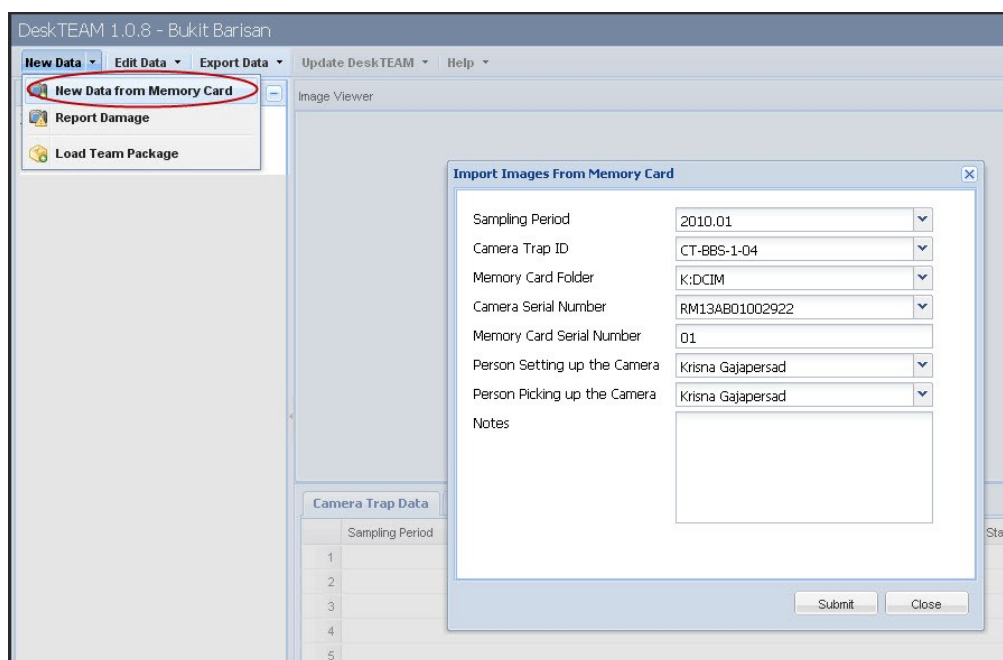

Figure 11. Screenshot depicting how to transfer images from a memory card to DeskTEAM.
8. **Copy files from the memory card to DeskTEAM.** In DeskTEAM, click on the arrow next to New Data on the Menu Bar and select New Data from Memory Card. Choose the drive that corresponds to the memory card and transcribe the required information from the *Camera Trap Setup* and *Pickup* field forms (Appendix A3 and A4). Press Submit and the images will be transferred from the memory card to the system. See Figure 11 for a visual reference. If the memory card cannot be found, see Section 4.10.2 to see if the memory card is damaged.